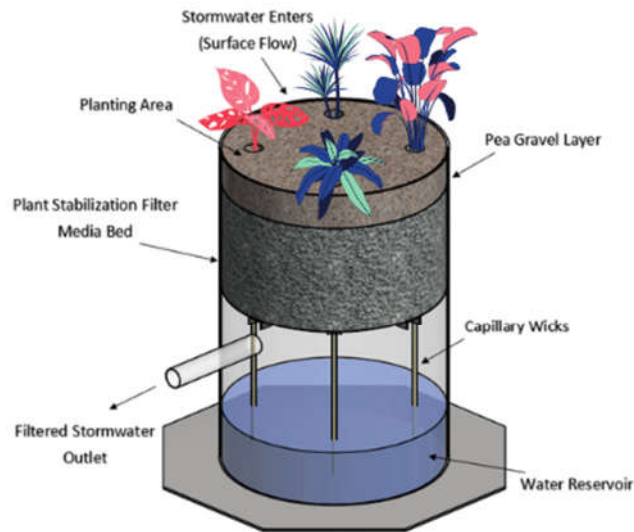

Figure 1. Diagram of Aqua-Ponic™ Biofiltration System.
The minimum 12-inch plant stabilization media layer within the Aqua-Ponic™ serves three operational roles by providing (1) pollutant filtration, (2) plant stabilization and (3) nutrient uptake. Figure 1 is an illustration of the Aqua-Ponic™ Biofiltration System. Design elements include a three (3)-inch top layer of pea gravel underlain by the plant stabilization filter bed. Water enters the system as sheet flow and then flows downward under gravity flow conditions through the pea gravel, filter bed and the associated root systems of the vegetation. The pea gravel layer serves to protect the underlying plant stabilization filter bed while dispersing the influent stormwater runoff across the treatment area. The filtered water then percolates further downward into the underlying water sump. A supporting and removeable perforated stainless-steel sheet underlies the filter bed. A post-filtration flow control orifice is placed across the outlet pipe opening in order to facilitate an even distribution of influent runoff across the filter treatment area. Crushed recycled